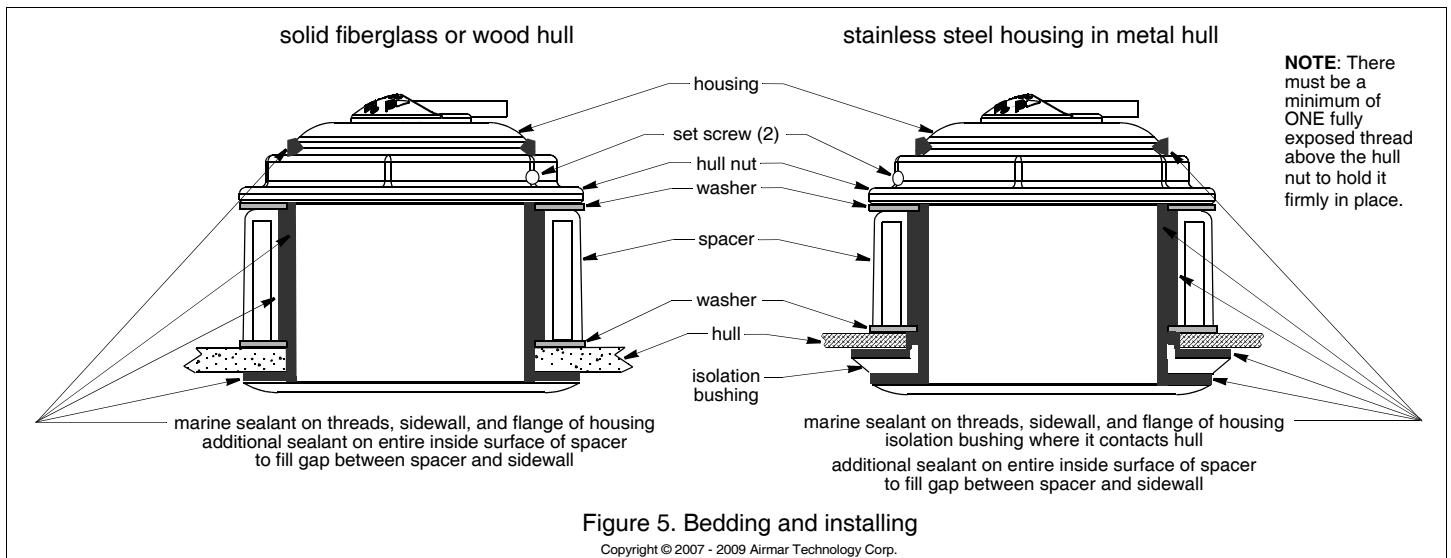
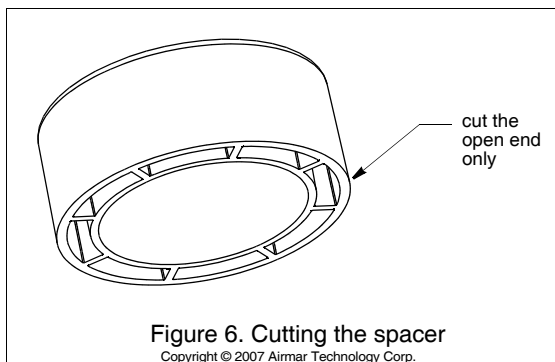

Figure 5. Bedding and installing
Figure 6. Cutting the spacer
4. Dry fit the transducer to determine if the spacer must be cut. From outside the hull, push the housing through the mounting hole (see Figure 5). From inside, slide one of the washers onto the housing. Slide the spacer onto the housing with the open end facing the hull. Add the remaining washer. *Be sure a minimum of **THREE** threads are showing on the housing above the washer.* If not, cut the spacer to make it shorter. When cutting the spacer, *be sure to cut the open end* (see Figure 6).
1. Apply a 4mm (1/8") thick layer of marine sealant to the flange, sidewall, and threads of the housing (see Figure 5). The sealant must extend 12mm (1/2") higher than the combined thickness of the hull, spacer, and hull nut. This will ensure there is marine sealant in the threads to seal the hull and to hold the hull nut securely in place.
2. From inside the hull, slide one of the washers onto the housing (see Figure 5). Slide the spacer onto the housing until the open end rests against the washer. Add the remaining washer. **Be sure a minimum of THREE threads are showing on the housing above the washer.** If not, make the spacer shorter by cutting the *open end* (see Figure 6).